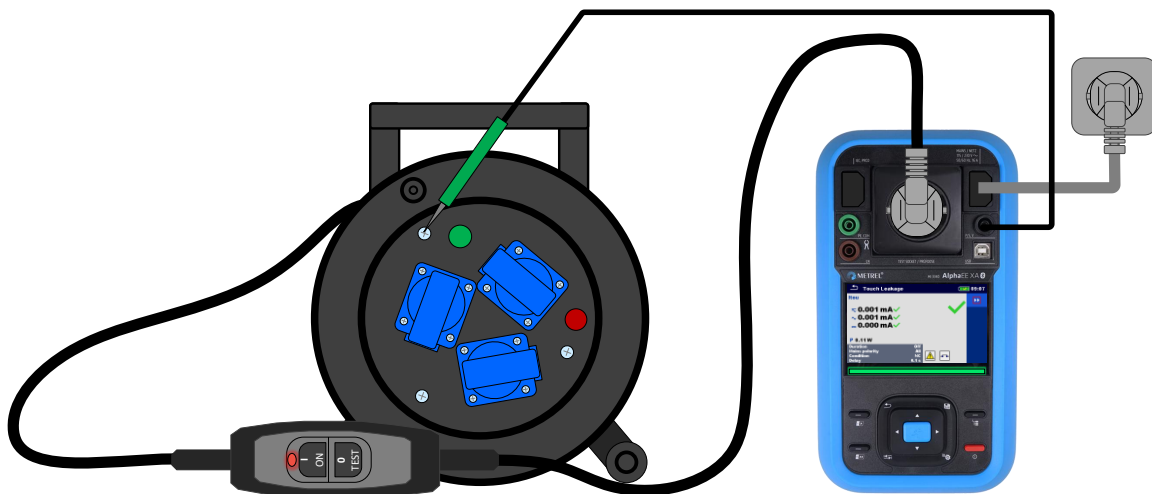

Figure 146_Touch leakage current on IACP
- Connect the device under test according to the connection diagram Figure 146_Touch leakage current on IACP,